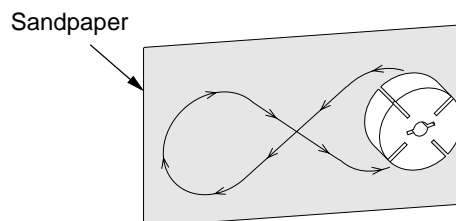

Figure 25 - Sanding Rotor
15. Place fine grade sandpaper (600 grit) on flat surface. Sand rotor lightly in "figure 8" motion four times (see Figure 25).